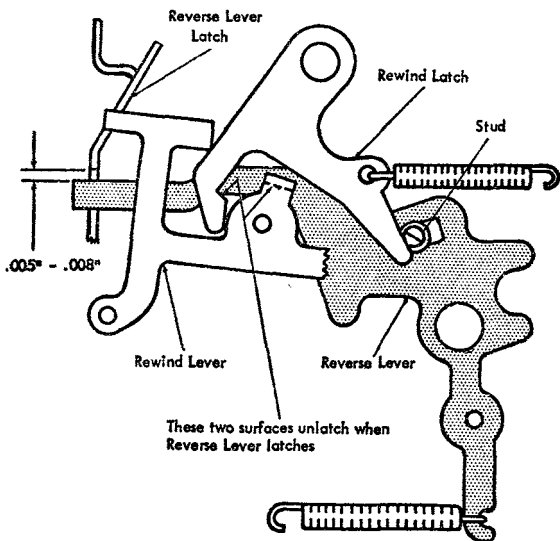

Figure 44. Reverse Lever Stud
14. REVERSE LEVER STUD. To insure winding the ribbon fully onto the left ribbon spool during rapid rewind, the rewind lever must not be released from its raised position before the reverse lever is latched (Figure 44). Position the stud in the reverse lever to release the rewind latch from the rewind lever, when the reverse lever has moved counter clockwise past its latch .005" to .008".